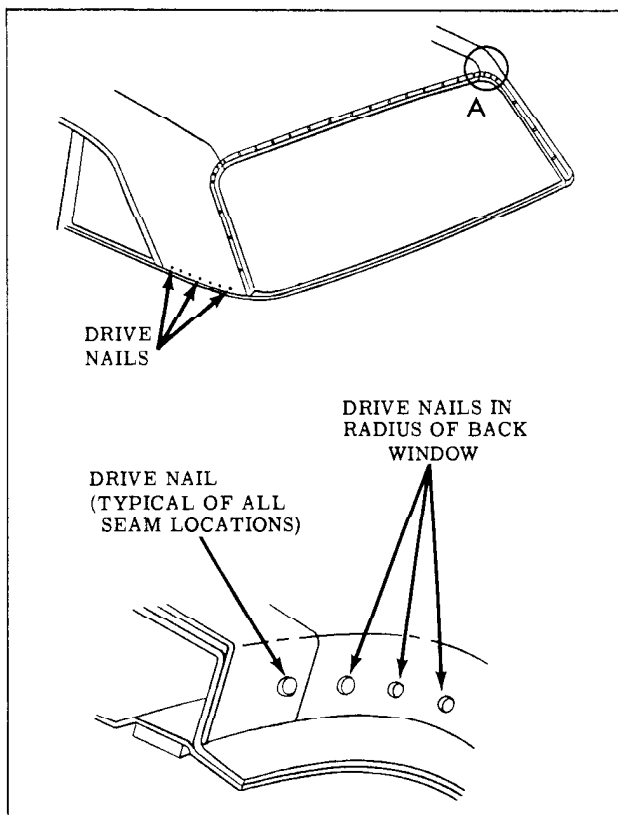

Fig. 15-59 Drive Nail Installation
install a drive nail at each seam location. View "A", Fig. 15-59 is typical of both seam locations at windshield and back window openings.
5. At front of body, carefully stretch fabric cover forward and install a drive nail in windshield opening at each seam location. (View "A", Fig. 15-59)
12. Install drive nails in back window upper corners. (Fig. 15-59)
13. Where required, adjust trim in quarter area; then install drive nails along lower end of fabric cover. (Fig. 15-59)